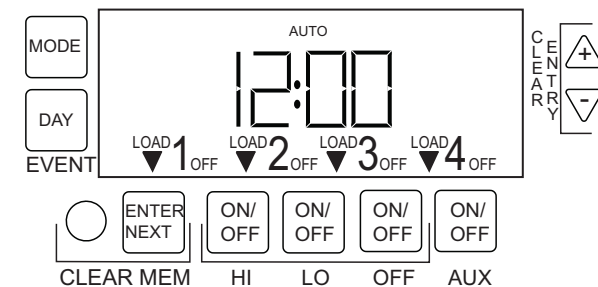

Figure 8 AUTO mode screen
Your pump does not have high speed operation or an auxiliary circuit.	Press MODE to scroll to AUTO mode (see Figure 8). The Initial Setup is complete.
15. Press + or - to set the time when the auxiliary circuit will turn OFF and press **MODE**. The screen displays **AUTO** (Auto Mode) as shown in Figure 8. The initial setup is complete.